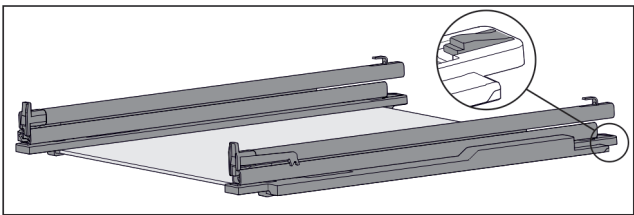

Fig. 45 Glass shelf with rails and retaining parts
- Press down retaining part at the rear (see Fig. 45) and simultaneously push rail back.